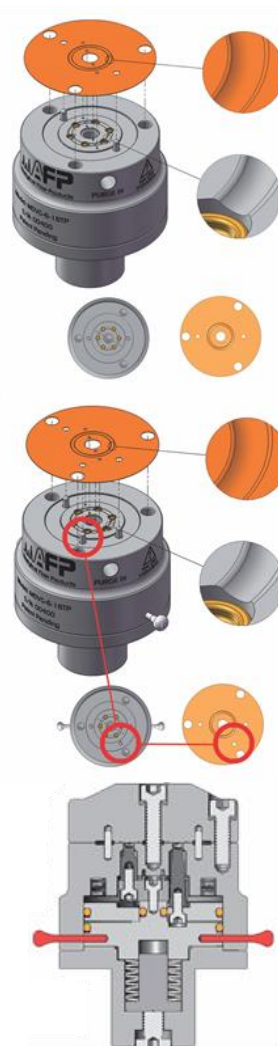

Figure 1
Step 1 Skip this step if your valve doesn't have relief pins. Actuate the valve by pressurizing the actuator (ON position). When the actuator is pressurized, insert the relief pins into their respective holes as shown in figure 1. You may need to slightly increase the actuation pressure to ease the pins in. When the pins are properly inserted, depressurize the actuator (OFF position). This step makes sure that all the plungers are down, making it easier to install the diaphragm and properly align it.